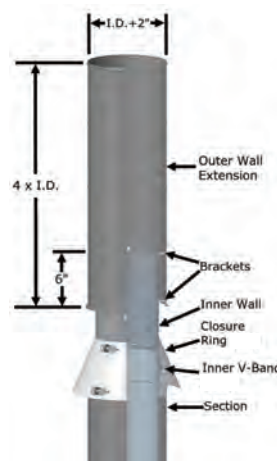

Figure 71a - No Loss Cap (NLC) installed or I.D. from 5" to 13"
The last 6" of the inner flue is surrounded by a larger outer wall (I.D.+2") that has a height of 4 times the flue diameter and is open at the bottom. The Closure Ring (CR) must be sealed to the inner wall with outer Sealant S-375. Rain water that falls into the larger wall washes down the side of the larger chimney and discharges at the bottom. See Figure 71a.
For I.D. from 5" to 13", the No Loss Cap is an integral component that attaches to the chimney flue using a standard inner V-Band (BSI) (See JOINT ASSEMBLY Section). For Models DAS1, DIS1, DIS2 and DIS4, a Closure Ring (CR) is provided to protect the insulated space between standard pipe inner and outer. See Figure 71a